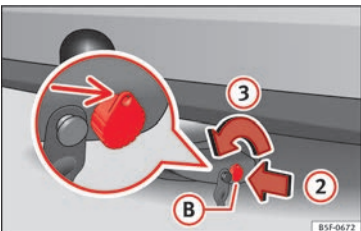

Fig. 217 Releasing the lock.
- Insert key **(B)** into the lock in the direction of arrow **(2)** »» **Fig. 217**.